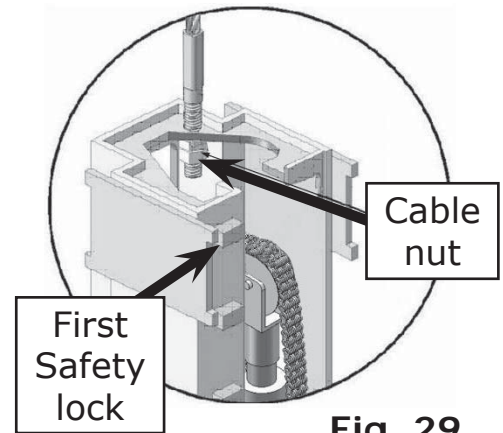

Fig. 29
1. Adjust the equalizing cable (See Fig. 29)